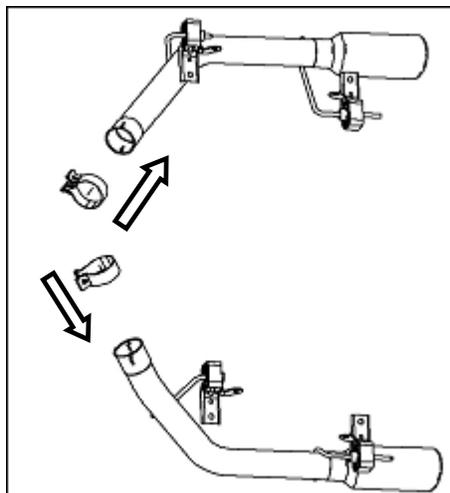

Figure 7
2. Place one (1) Band Clamp (#R12060014) over the flared end of each Tailpipe inlet. Refer to Figure 7.